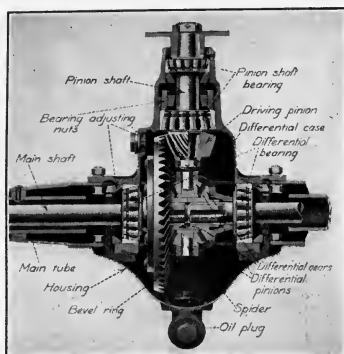
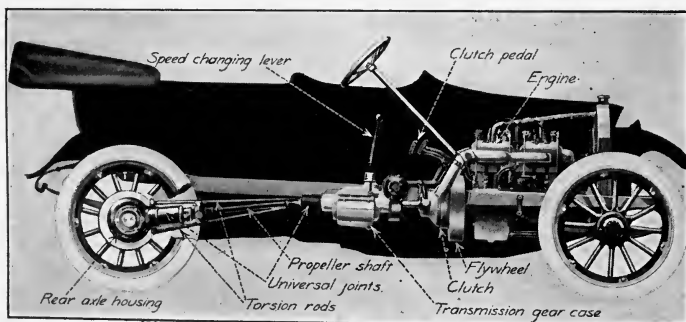
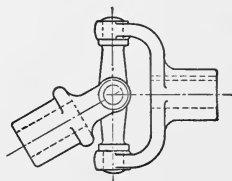
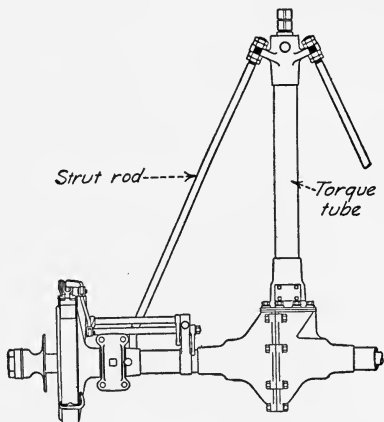

FIG. 14.—Differential gear.
FIG. 15.—Arrangement of power plant and transmission system.
FIG. 16.—Universal joint.
FIG. 17.—Rear axle with torque tube and strut rods.
11. The Differential.—Some provision has to be made to drive the rear wheels positively in either direction and yet allow one wheel to run ahead of the other when turning a corner. This is done by dividing the live rear axle at the center and connecting the two halves by a differential gear, the details of which are shown in Fig. 14. Each half of the live axle (called the *main shaft* in Fig. 14) has a bevel gear on its inner end. These bevel gears face each other and are called the *differential gears*. They are connected by from two to four *differential pinions* spaced at equal distances around the circle. The power is applied at the centers of these differential pinions so that they act like the doubletrees or eveners on a team of horses, allowing one wheel to run ahead of another or to lag behind but still maintaining an even pull on the two differential gears. Referring to Fig. 14, the power from the engine is brought back to the driving pinion and this delivers it to the large gear called the *bevel ring*. This bevel ring is fastened to the *differential case*, which, therefore, receives the power from the bevel ring. The differential case turns the *spider* with it and, as this spider carries the differential pinions, these pinions are carried around with a force applied at their centers. On a
12. The Power Plant and Transmission.—Figure 15 shows a typical arrangement of the power plant and the power transmission system. The engine is generally placed in the front end of the car, both for accessibility and to balance the weight of the passengers in the rear part
The power plant is mounted on the frame of the car, while the rear wheels which are to finally receive and use the power are flexibly connected to the frame by springs. We must, therefore, have a flexible arrangement for taking the power from the power plant to the rear axle. This is usually accomplished by means of a propeller shaft and one or two universal joints (see Fig. 15). A universal joint is merely a double-hinged shaft connection (see Fig. 16) permitting the lower end of the propeller shaft to swing at will with the rear axle and yet receive power from the engine.
In the car of Fig. 15 the engine and transmission are carried in the frame of the car and the first universal lies just back of the transmission. In the car of Fig. 3 the transmission with its change gears is placed just in front of the rear axle and is fastened solidly to the rear axle housing. This places both universal joints and the propeller shaft between the engine and the transmission.
shaft and the bevel pinion in driving the rear axle (see Fig. 14) tend to turn the axle housing over backward with the same force that is exerted on the bevel ring. This twisting action or "torque" must be taken care of in some way. This can be done by torsion rods as in Fig. 15, or by a single bar called a torque arm or by a torsion tube around the propeller shaft, or it can be left entirely to the springs to take care of this action. If the torque is taken up by a housing around the propeller shaft as in Fig. 17, this tube is called the "third member" of the rear axle system and is securely bolted to the rear axle housing. This system does away with one universal joint, as only one at the front extremity of the propeller shaft is used.
14. Strut Rods.—In order to preserve the alignment of the wheels or to keep one wheel from getting ahead of the other, strut rods are fastened to the brake flanges or spring seats, and extend to the front end of the third member as in Fig. 17 or to some part of the frame.